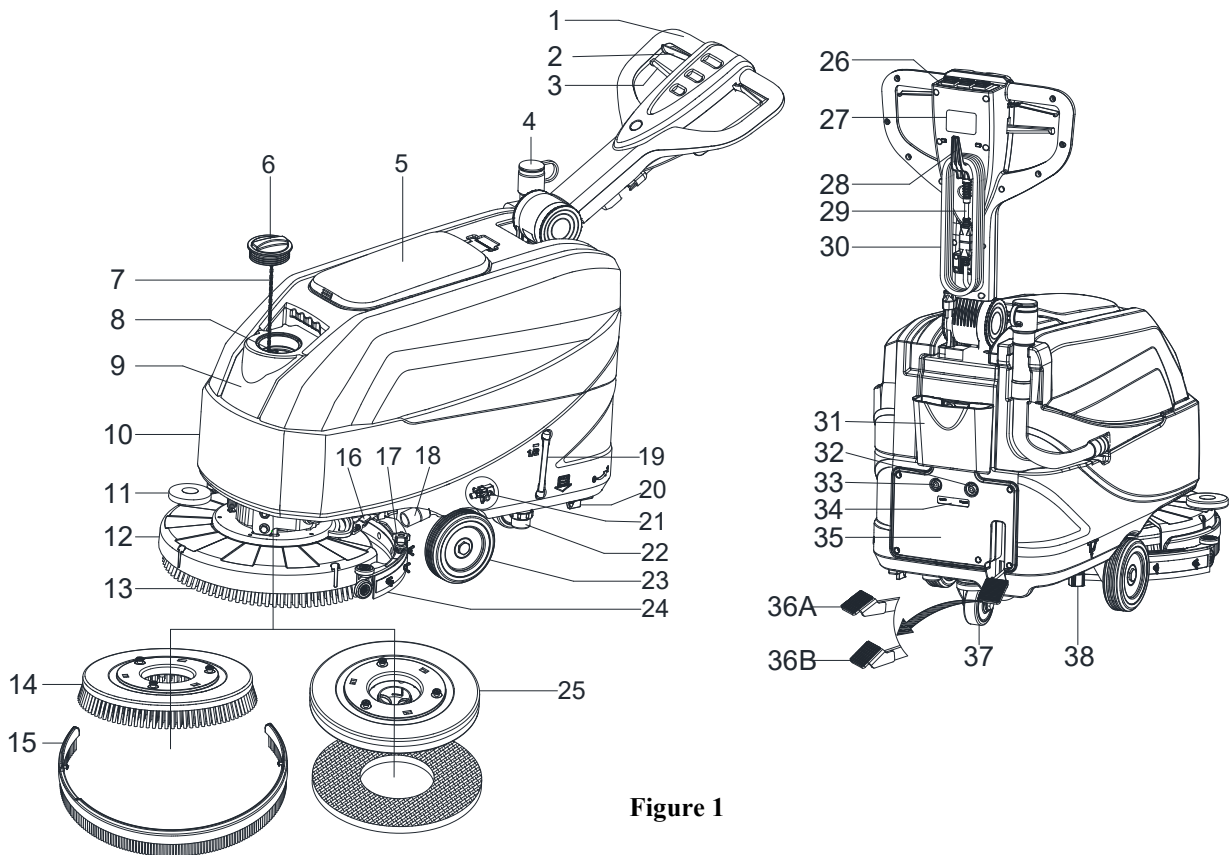
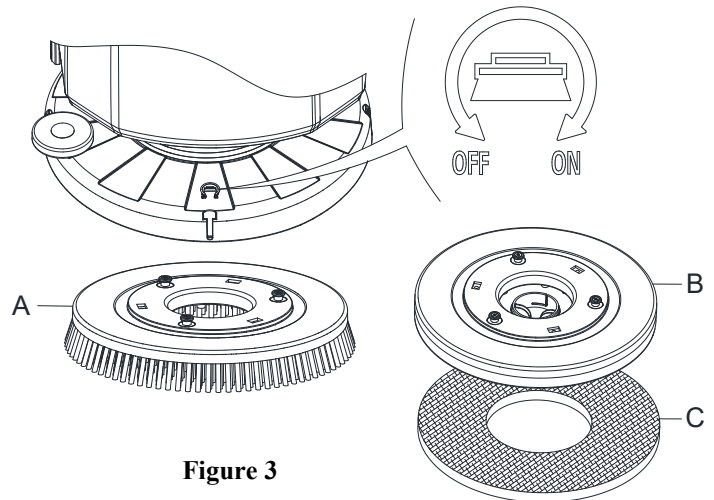

Figure 1
Figure 3
MACHINE STRUCTURE (as shown in Figure 1)
Install either the brush (A, Figure 3) or pad-holder (B and C, Figure3) according to the type of floor to be cleaned.
2. Lift the deck by pressing the pedal (36, Figure 1).
3. Place the brushes (A, Figure 3) or the pad-holder (B, Figure 3) under the deck (12, Figure 1).
4. Lower the deck on the brushes/pad-holders by pressing the pedal (36, Figure 1).
6. Press one of the Brush/forward gear safety switch lever (2, Figure 1) to engage the brush/pad-holder, then release it. If necessary, repeat the procedure until the brushes/pad-holders are engaged.
7. If Step No.6 above proves to be difficult, use the manual method by turning the brush/pad-holder in the direction opposite to the normal turning direction (ON) to install the brush/pad-holder. (as shown in Figure 3)
To engage the brush/pad-holder press the safety switch lever (2, Figure 1) which turns on the brush/pad-holder motor.
8. To remove the brush/pad-holder lift the deck by pressing the pedal (36, Figure 1), then manual method by turning the brush/pad-holders in the opposite direction (OFF), the brush/pad-holder will be removed.
3. Lower the brush/pad-holder deck (12, Figure 1) by lifting the pedal (36), Brush on the floor.